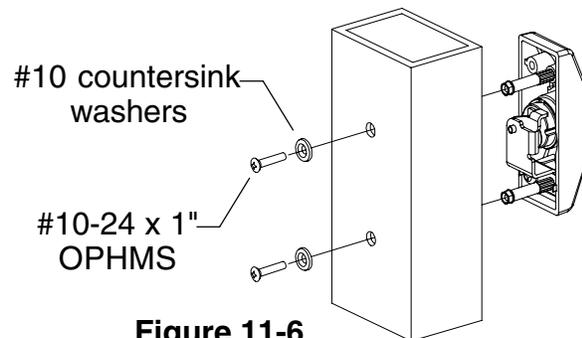

Figure 11-6
11.6. With **key removed**, install cylinder housing assembly on door (Figure 11-6). Secure with two #10 countersink washers and two #10-24 x 1" OPH machine screws.